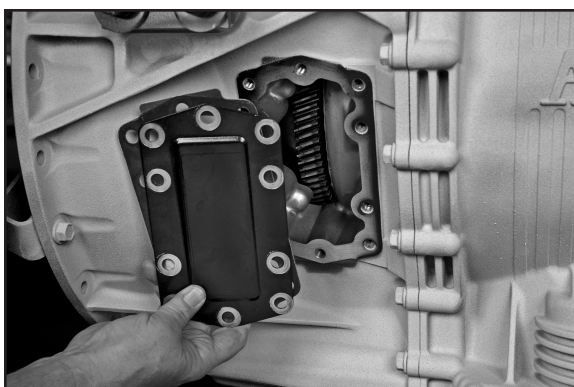

Figure 14
3. Remove the gasket and clean the aperture surface (**Fig. 14**).